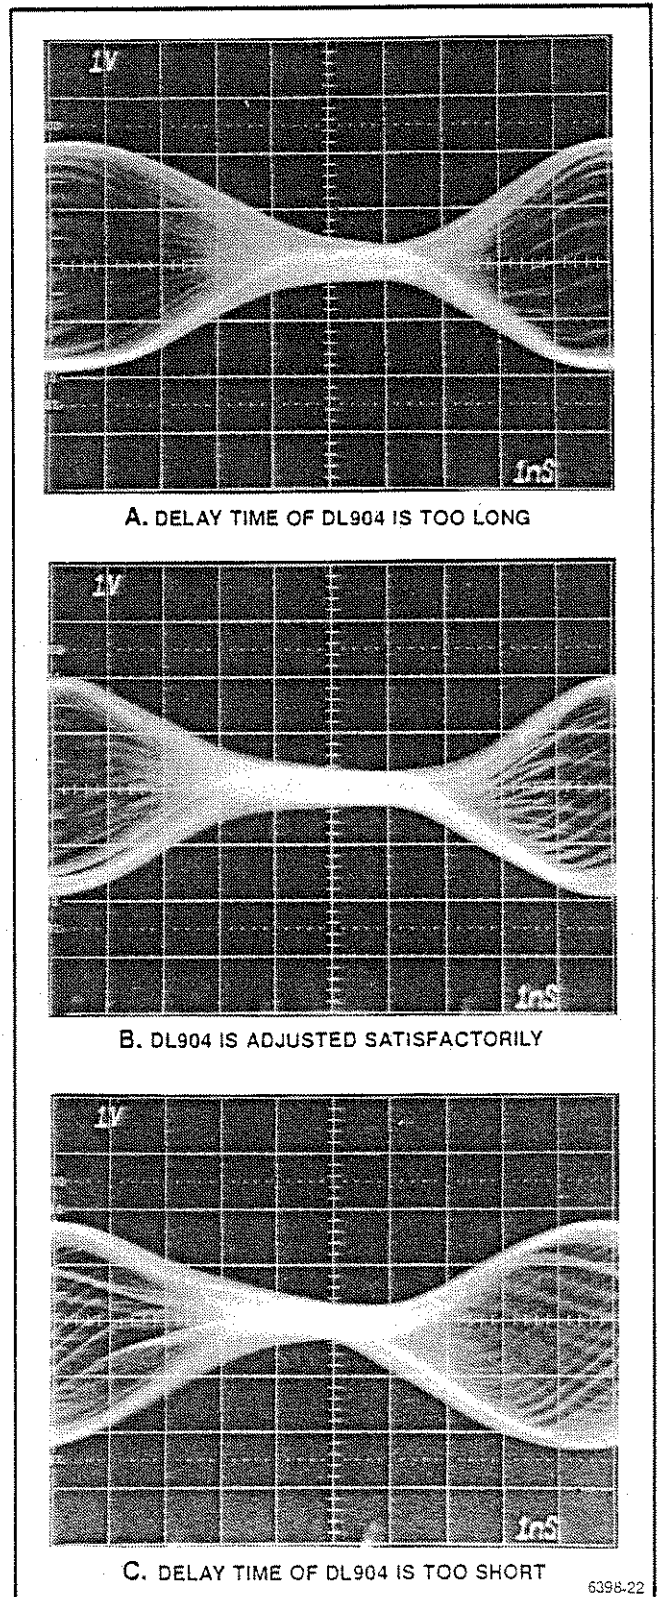

Fig. 4-4 Differential output waveform
- f. **CHECK** that the Oscilloscope waveform changes as shown in Figure 4-4 as the delay control on DL904 is moved.